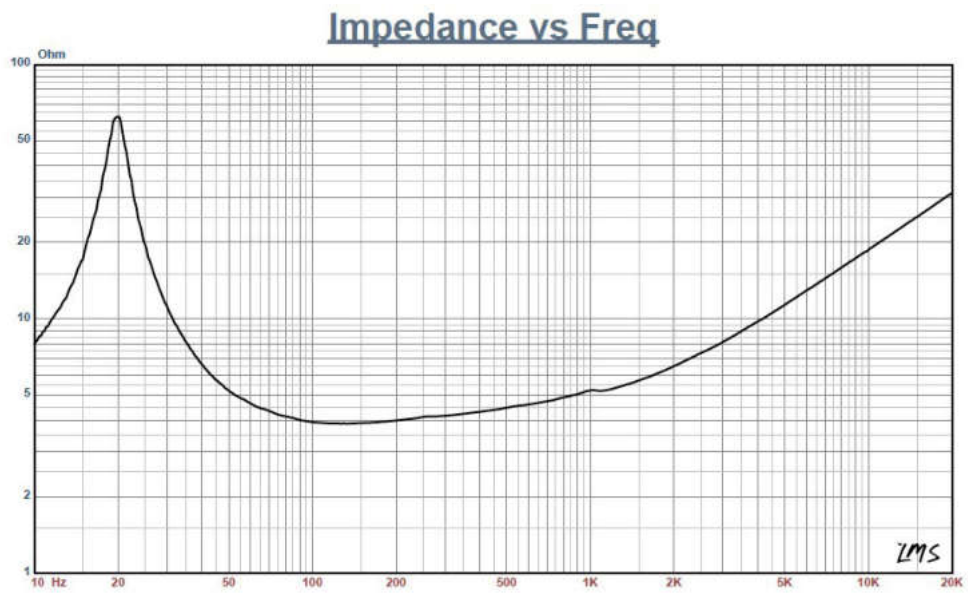

Figure 1 - 10: Scan-Speak 28W/4878T00 subwoofer 1 V free-air impedance plot.
Because most manufacturing data is produced using either a standard transducer model or in many cases the LEAP 4 TSL model, I also generated LEAP 4 TSL model parameters to compare with the manufacturer's data. Figure 1 shows the 28W/4878T00's 1 V free-air impedance plot. Table 1 compares the 28W/4878T00's LEAP 5 LTD and LEAP 4 TSL Thiele-Small (T-S) parameter sets along with the Scan-Speak factory data.
11). Figure 1 actually includes two plots, the top graph being the standard fundamental SPL curve with the second and third harmonic curves, and the bottom graph the second and third harmonic curves plus the total harmonic distortion (THD) curve with an appropriate X-axis scale.